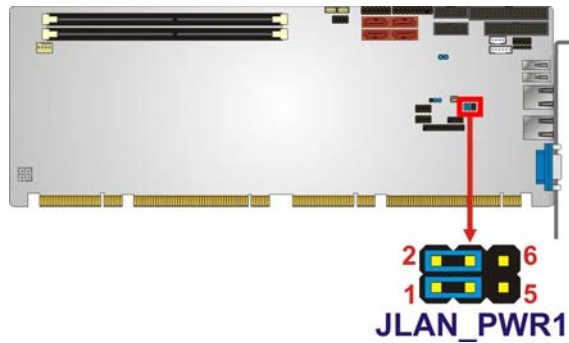

Figure 4-9: Wake-on LAN Jumper Location
- CN Location:** See Figure 4-9